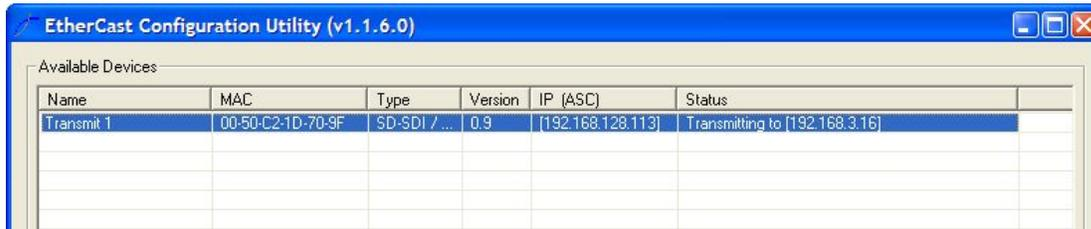

Figure 4: Main Dialog Controls Panel with Engine Name, MAC and IP Addresses, and Status
- 11) Check to see if the changes have been captured on the engine by selecting 'Detect Devices' once again. If your changes have been captured, the Main Dialog Controls Panel will look like the screen in Figure 4. The engine will be labelled with the name you assigned, such as 'Transmit 1', the MAC and IP addresses will be shown, and the engine will be configured to transmit to a second engine with a different IP address. If this information is not as shown, review the instructions. You may not have correctly applied the settings to the engine.